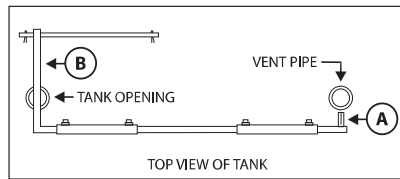

FIG 1
3. Set up installation tool as in **Figure 1** by adding or removing sections so that **stud (A)** is centered on the vent pipe when **post (B)** is lying across center of opening. Tighten all screws.